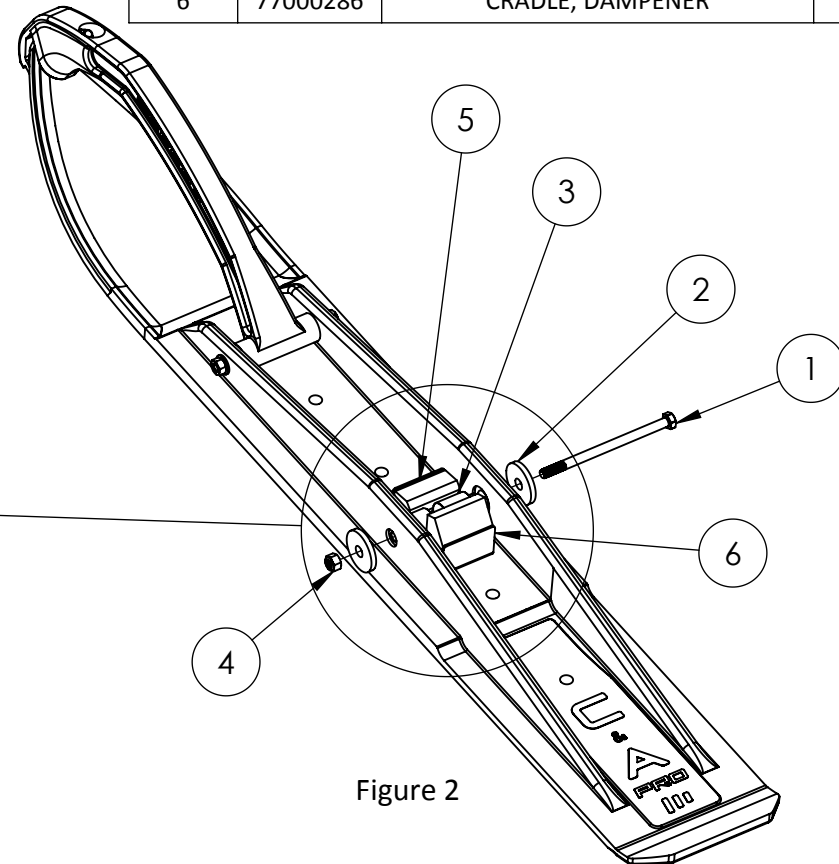

Figure 2
4. Insert the rubber dampener into the dampener cradle and place the assembly in the ski with the tall side of the dampener towards the rear of the ski. (see Figure 2)